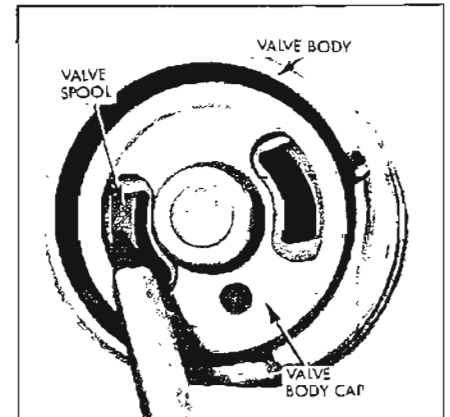
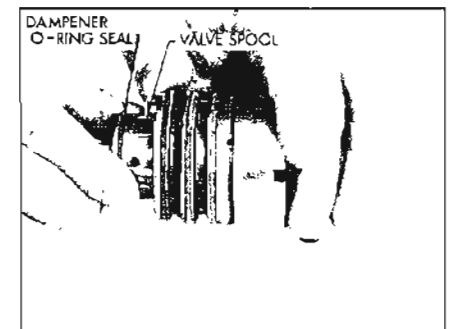

Figure 8-40—Separating Valve Spool From Valve Body
Figure 8-41—Withdrawing Valve From Valve Body
3. Remove the valve spool by holding the valve assembly in one hand with the stub shaft pointing downward. Insert the end of a pencil or wood rod through the opening in the valve body cap and lightly push on the valve spool until it is far enough out of the valve body to be withdrawn. See Figure 8-40. Withdraw the spool with a steady rotating pull to prevent jamming. See Figure 8-41. If slight sticking occurs, make a